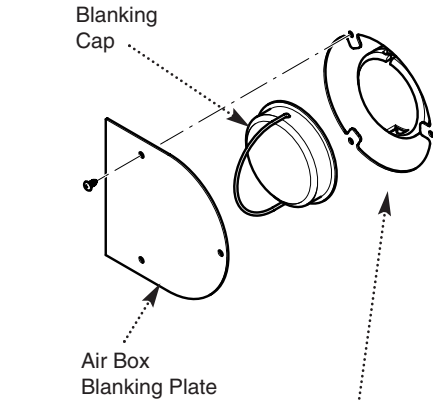

Fig. 30
1. Remove the rear air box blanking plate from the back plate by releasing the three screws (Fig. 30).
2. Remove the blanking cap at the rear of the turret, by pushing and turning anti-clockwise to release the bayonet fitting (Fig. 30).